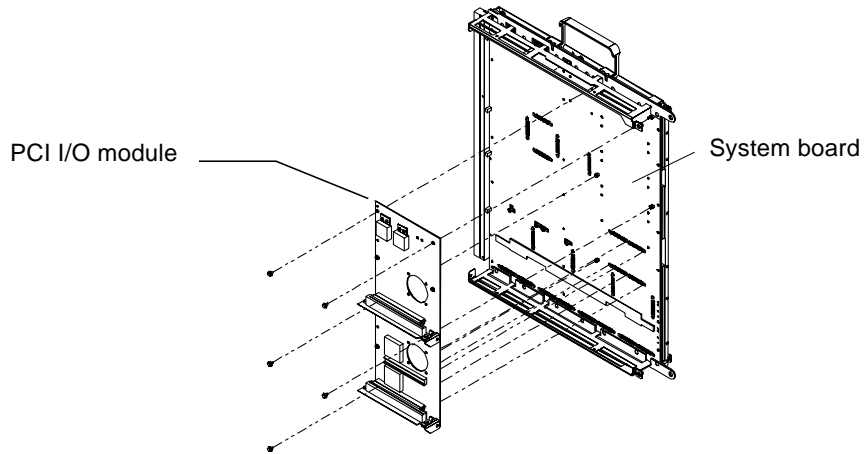

FIGURE 11 PCI I/O Module Installation
2. Align the PCI I/O module with the system board compression connector locations. See FIGURE 11.